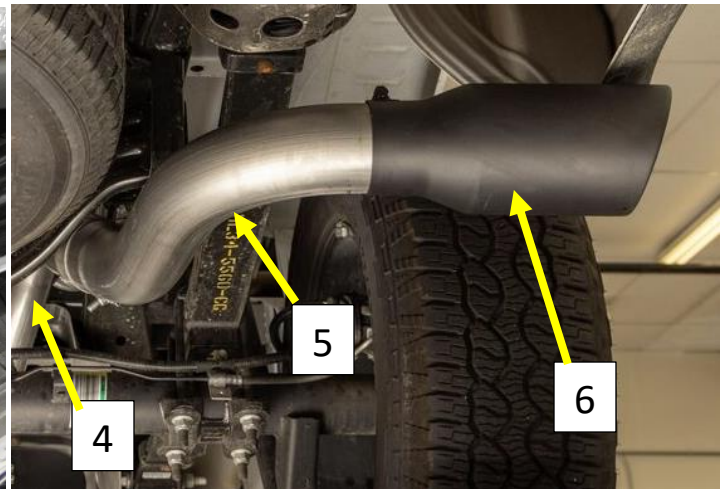

Figure 8
11. Install the tailpipe (5) on to the muffler outlet pipe (4). **Fig. 8** - Tighten the clamp to allow for adjustment.
12. Install the Black Tip (6) on to the tailpipe and adjust the stick out as desired. **Fig. 8** - Tighten the clamp bolt.